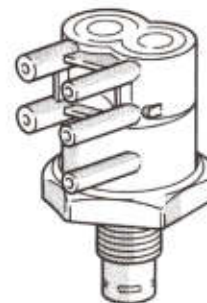

Fig. 4—Coolant Vacuum Switch Five (5) Port
COOLANT VACUUM SWITCH FIVE (5) PORT (Fig. 4)